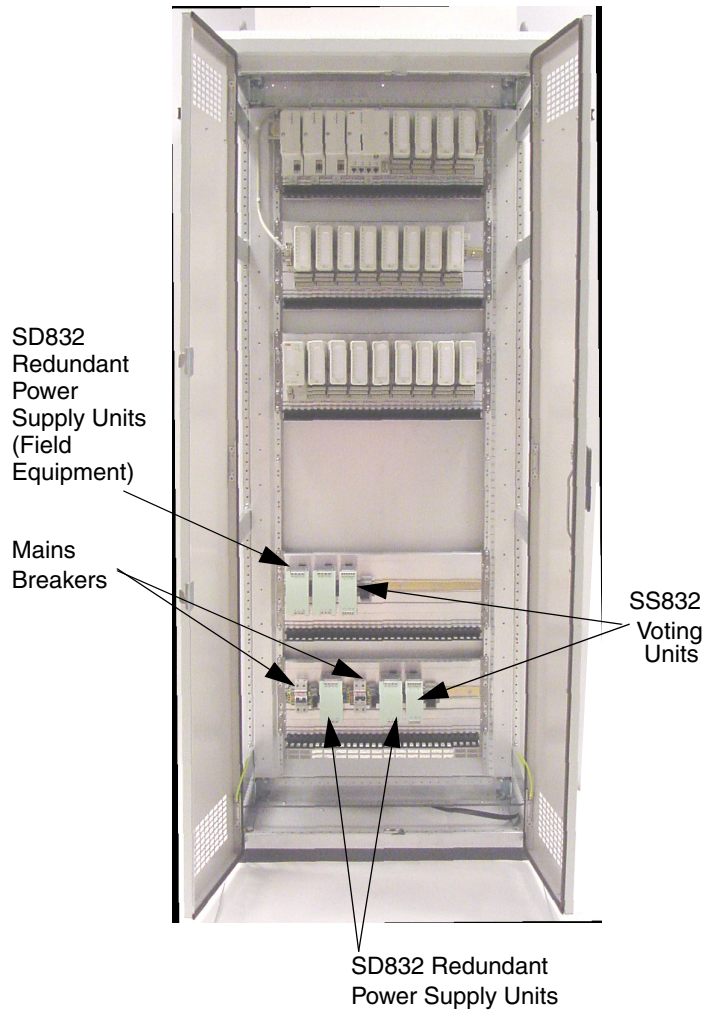

Figure 51. Floor Mounted Cabinet - Unit Arrangement (Redundant PSU)
- Figure 51 on page 116, Floor Mounted Cabinet - Unit Arrangement (Redundant PSU)